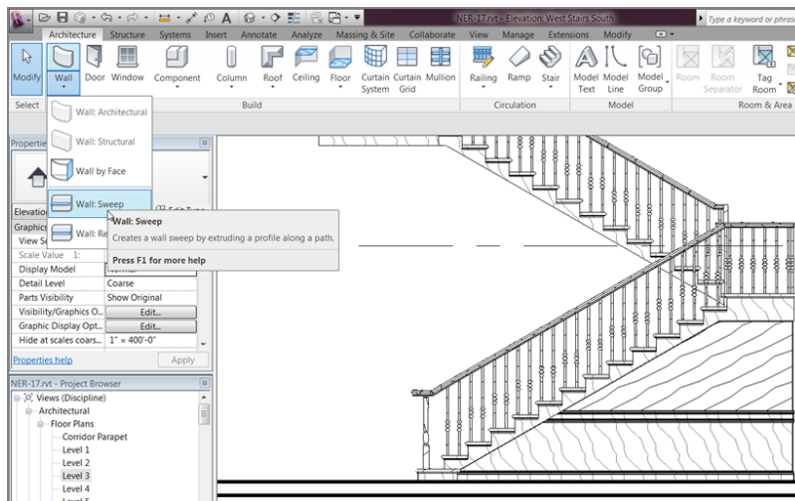

FIGURE 16.16: Choosing the Wall Sweep command
1. Go to the elevation shown in Figure 16.16 (the first one you placed, looking at the stairs).
2. On the Architecture tab, click the down arrow on the Wall button, and select Wall Sweep (see Figure 16.16).